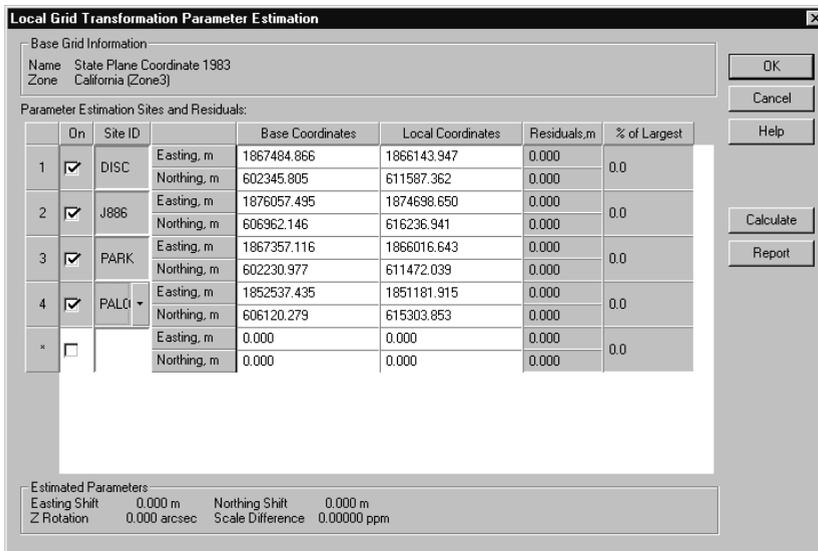

Figure 9.8. Local Grid Transformation Parameters Estimation Dialog Box
1. From the **Local Grid System Definition** dialog box, click the **Estimate...** button to open the **Local Grid Transformation Parameter Estimation** dialog box, Figure 9.8.